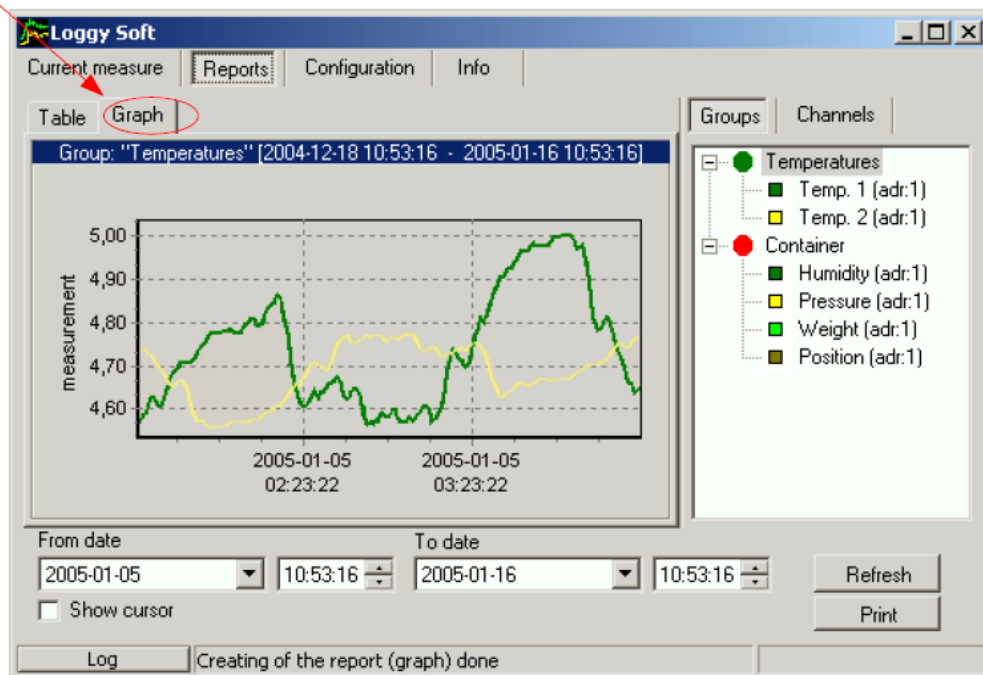

Fig. 3.6. **Reports - Graph** tab
Graph tab (Fig. 3.6) is used for viewing and printing of measurement results recorded by an **CIT 650** device (e.g. temperature, humidity) in the form of a graph. Measurements from a maximum of five recorded measurement channels can be viewed.
- **graphs area** - plots measured values (e.g. temperature, humidity) in function of time. Each channel is distinguished by a different colour (Fig. 3.6);
- click appropriate tab **Groups** or **Channels** (Fig. 3.6),